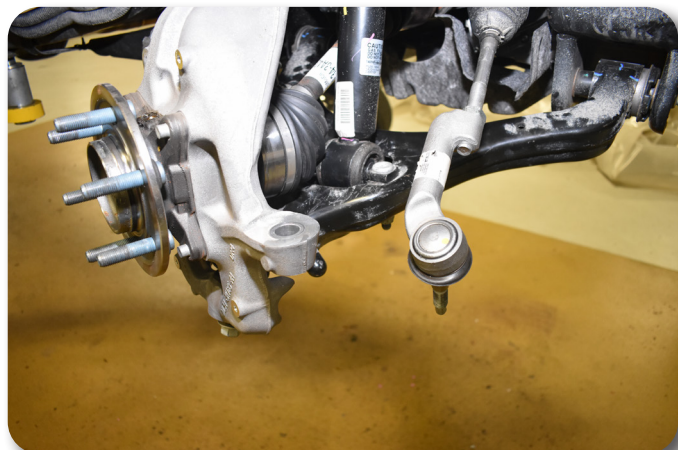

Figure 5
10. Disconnect the tie rod ends from the steering knuckles. Avoid hitting the aluminum steering knuckle, use appropriate tool to remove tie rod end from steering knuckle. Take care not to strike the tie rod end, or damage the threads and boot Figure 5.